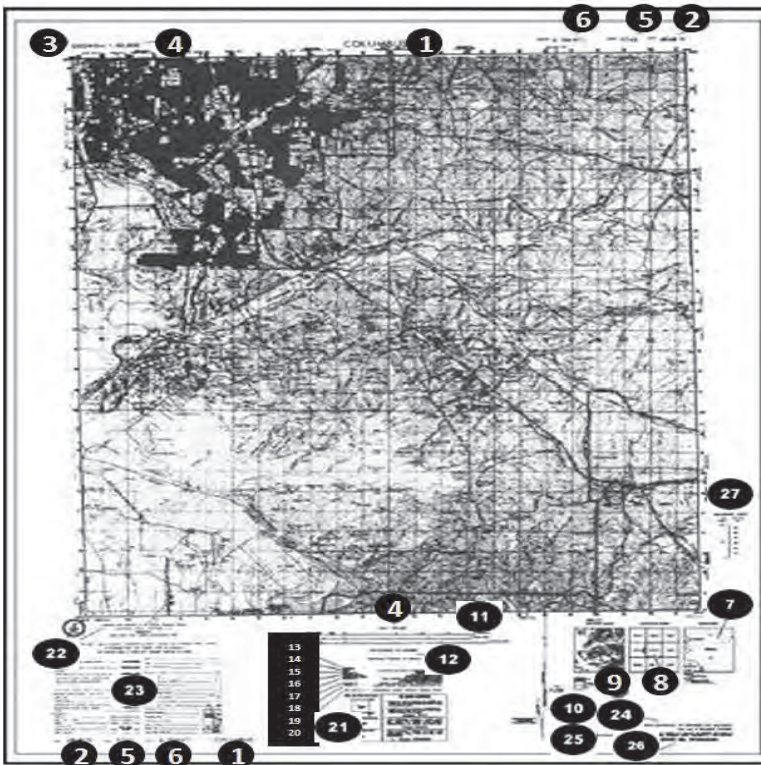

Figure 071-COM-1000-2. Topographical map.
3. Identify the marginal information on a military map (Figure 071-COM-1000-2).